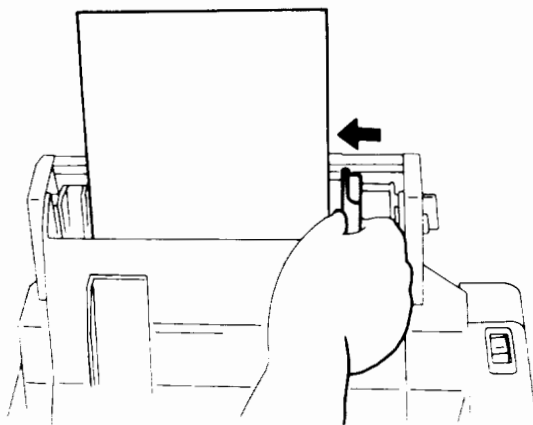

Figure 2-18 Adjusting the side guide
- c. Place the paper in the bin, pushing it against the left side guide. Adjust the right side guide to the width of the paper (see Figure 2-18). If the paper does not stand straight in the bin, raise the paper support wire.